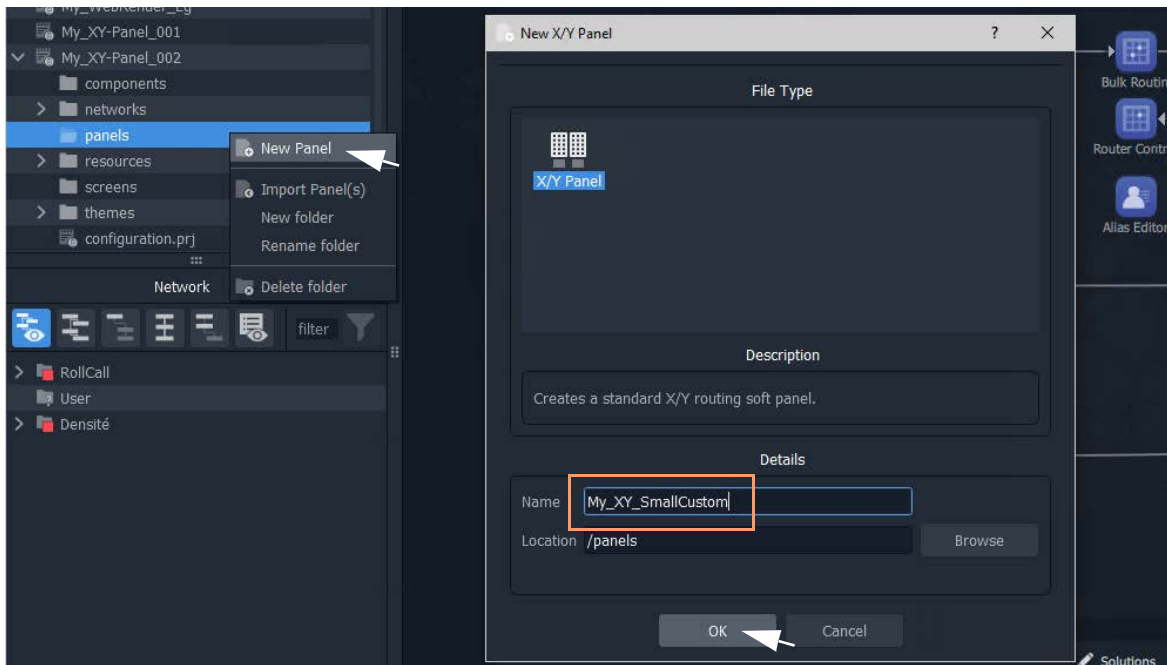

Fig. 13-38: Create New XY Panel
- 3 Enter a name into the **New XY Panel** dialog and click **OK**. See Figure 13-38.